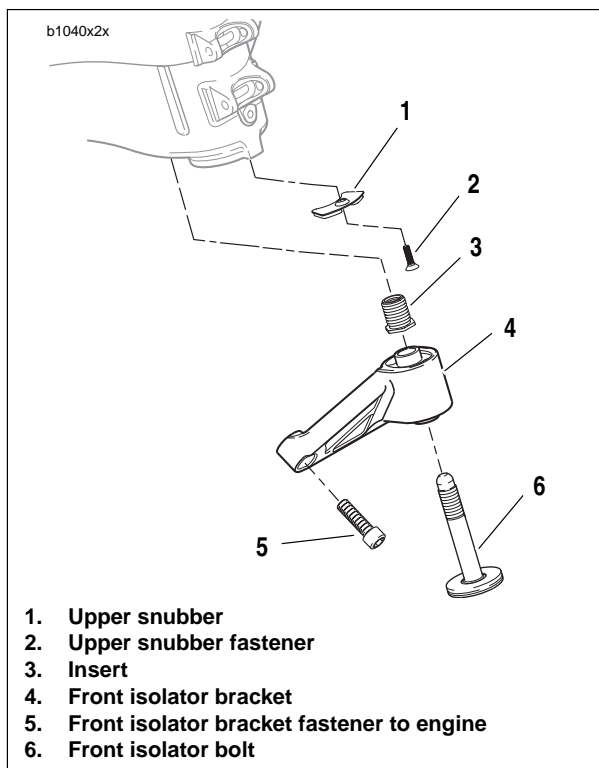

Figure 2-87. Front Isolator
3. See Figure 2-87. Remove front isolator bolt (6).
4. Remove front isolator mount fasteners (5).
5. Remove front isolator bracket (4).
6. Remove upper snubber fastener (2) and remove upper snubber (1).
See Figure 2-87. If the threaded insert (3) is damaged and needs to be replaced, install new insert with **LOCTITE 271** and tighten to 59-61 ft-lbs (80-82.7 Nm).
1. See Figure 2-87. Install upper snubber (1) tightening snubber fastener (2) to 12-36 **in-lbs** (1-4 Nm).
2. Loosely install front isolator bracket (4) with front isolator bolt (6).
3. See Figure 2-87. Tighten fasteners (5) to 49-51 ft-lbs (66-69 Nm).
See Figure 2-87. If the threaded insert (3) is damaged and needs to be replaced, install new insert with **LOCTITE 271** (red) and tighten to 59-61 ft-lbs (80-82.7 Nm).